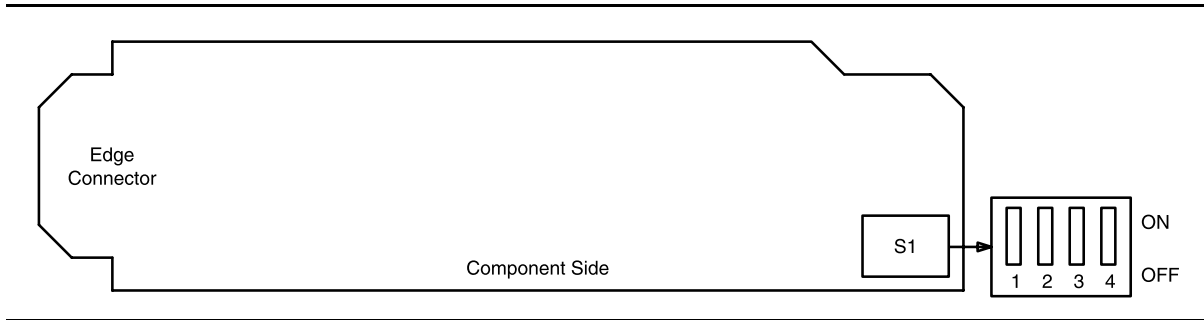

Figure 2 – BBF2 TGS Option Switch
Determine the timing mode from work order or office records. Refer to Table C and Figure 2 and set the timing mode as required for the **TGS** circuit pack(s).
9. Refer to Table D and Figure 2 and set the DS1 line coding and frame format as required for the **TGS** circuit pack.